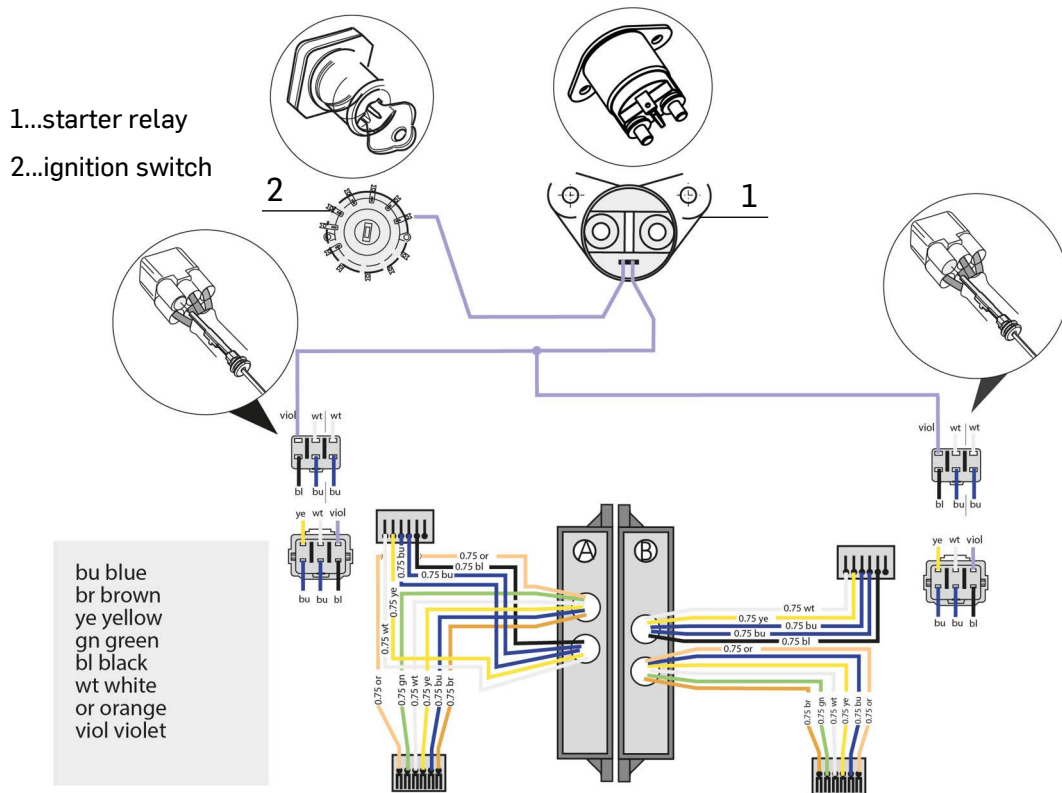

Fig. 4
Additionally, an Advanced Start Module (ASM) System has been introduced with ignition module 966727 and later and flywheel hub 966872 and later. The Advanced Start Module System enables the optional easy-start function. In order to use the easy-start function the relevant connections to the starter relay (1) and ignition switch (2) need to be made (see fig.4).